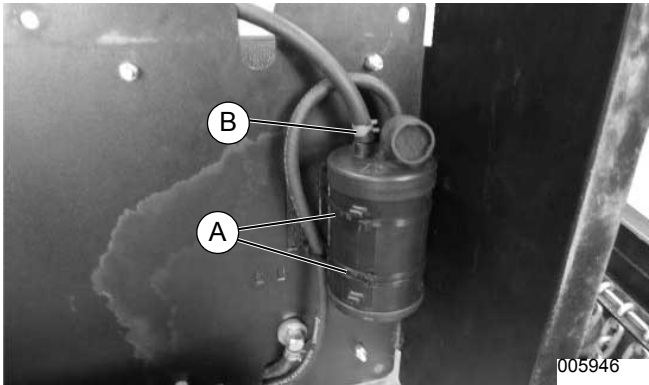

Figure 4-14. Carbon Canister
1. See Figure 4-14. Cut cable ties (A) securing carbon canister and purge hose.